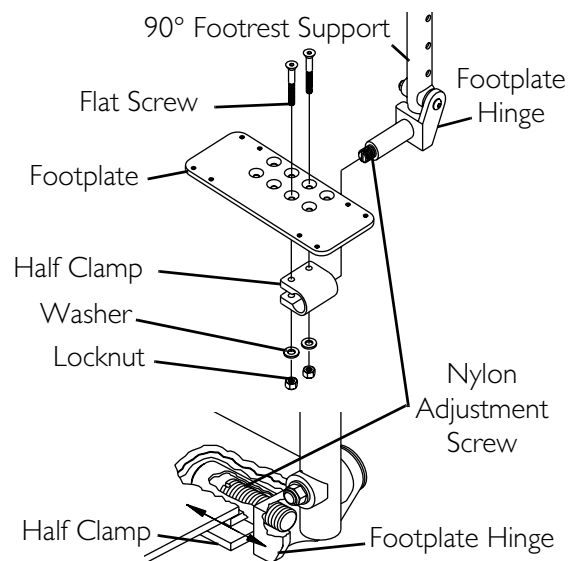
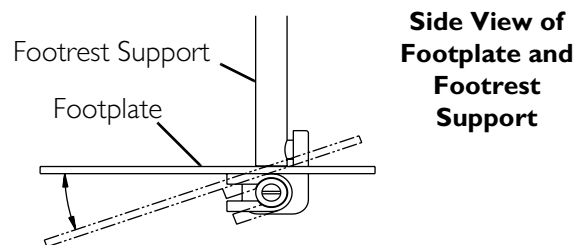
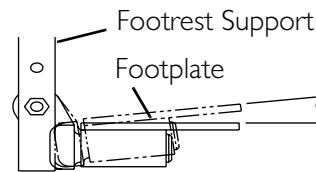

FIGURE 6.9 Installing Adjustable Angle Flip-up Footplates
FIGURE 6.10 Angle Adjustment
FIGURE 6.11 Perpendicular and/or Inversion/Eversion Adjustment
NOTE: For this procedure, refer to FIGURE 6.9.
NOTE: For this procedure, refer to FIGURE 6.9 and FIGURE 6.10.
1. Loosen, but DO NOT remove, the two flat screws, washer and locknuts that secure the footplate to the footplate hinge (FIGURE 6.9).
2. Position the footplate to the necessary angle to accommodate the user (FIGURE 6.10).
NOTE: For this procedure, refer to FIGURE 6.9 and FIGURE 6.11.
1. Insert a flathead screwdriver through the half clamp on the footplate (FIGURE 6.9).
2. Slowly turn nylon adjustment screw in or out until footplate is perpendicular to the footrest assembly or the desired inversion or eversion is obtained (FIGURE 6.11).